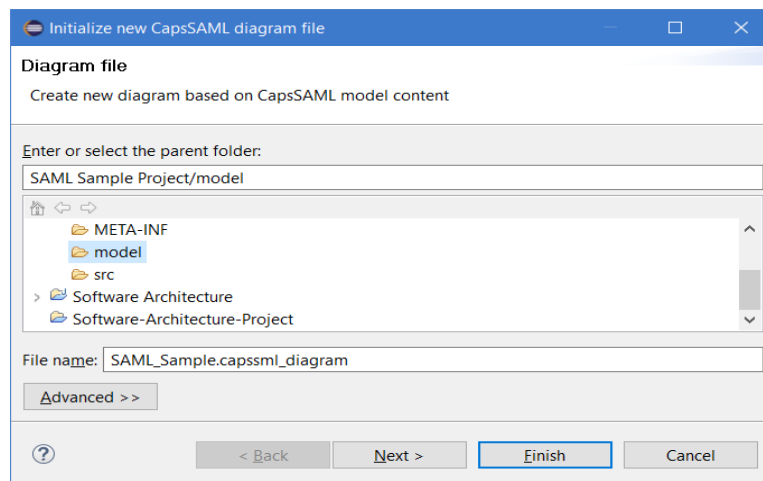

Figure 2.8: Name and location of the new file
- In the appearing window, you can select an other location and name for the file that will be created. I suggest to leave the default settings and to click on finish (figure 2.8);